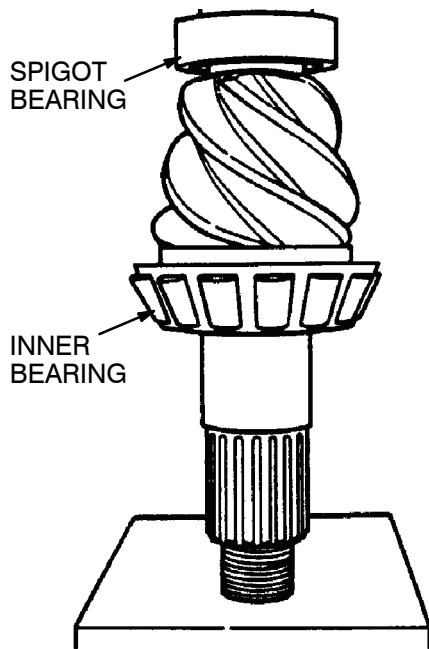

Figure 110.
- (1) Press the spacer and the inner bearing cone firmly against the pinion shoulder with a suitable sleeve placed against the bearing inner race.
- (2) Press the spigot bearing into position on the pinion end. Figure 110. If pinion end has a groove, retain bearing with snap ring. If spigot bearing is to be staked into position, continue with step 3.